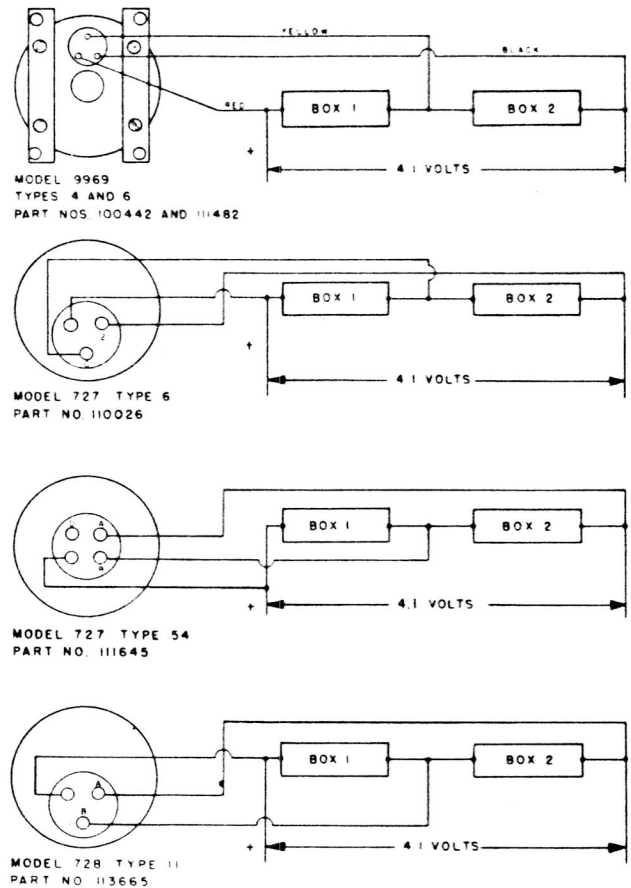

Figure 237—Calibration Adjustment Connections
shown in the applicable diagram of figure 237. Mount the temporary scale made according to figure 233 for part number 100442 or the regular scale for part number 110026 and 113665. Set decade boxes No. 1 and No. 2 to 100.5 ohms and apply 4.1 volts d.c. with the polarity shown in figure 237. The pointer should indicate approximately center scale.
4. Connect the mechanism and the two decade resistance boxes (No. 1 and No. 2) as shown in the applicable diagram of figure 237. Mount a temporary scale made according to figure 233 for part number 111482 or the regular scale for part number 111645. Set each decade box to 100.5 ohms and apply 4.1 volts d.c. with the polarity shown in figure 237. The pointer should indicate approximately center scale.
(d) Connect the instrument or mechanism in the applicable circuit of figure 237 and check the end point and center indications per paragraph 4.d.(7)(b)6.7. and 9.